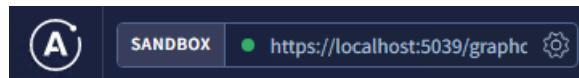

Figure D.3 Connected Server Indication
- Step 2. On this page, you must set the sandbox address to <https://localhost:5039/graphQL> or <https://localhost:5049/graphQL>, as seen in *Figure D.3*. The green indicator dot signifies that Apollo GraphQL is connected to the GraphQL server.